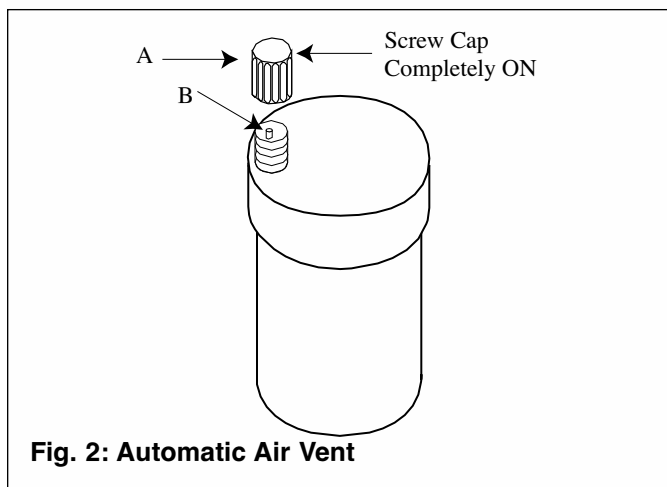

Fig. 2: Automatic Air Vent
1. Remove the cap "A" from any automatic air vent in the system and check operation by depressing valve "B" slightly with the tip of a screwdriver. See Fig. 2.